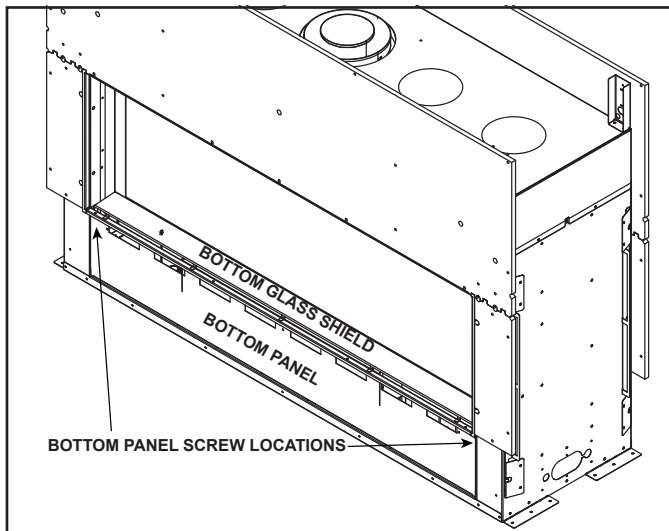

Figure 8.1 Bottom Panel Location
1. Remove bottom panel by removing two screws. Screw locations are shown in Figure 8.1. After removing two screws, gently lift the panel and pull forward, avoiding contact with the non-combustible board if possible.